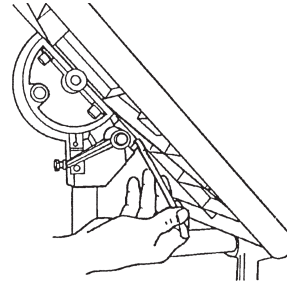

Figure 44
- Tighten the Tilt Lock, then use a 1/2" Wrench to adjust the 45° Stop on the front side of the Worktable (shown in Figure 44).